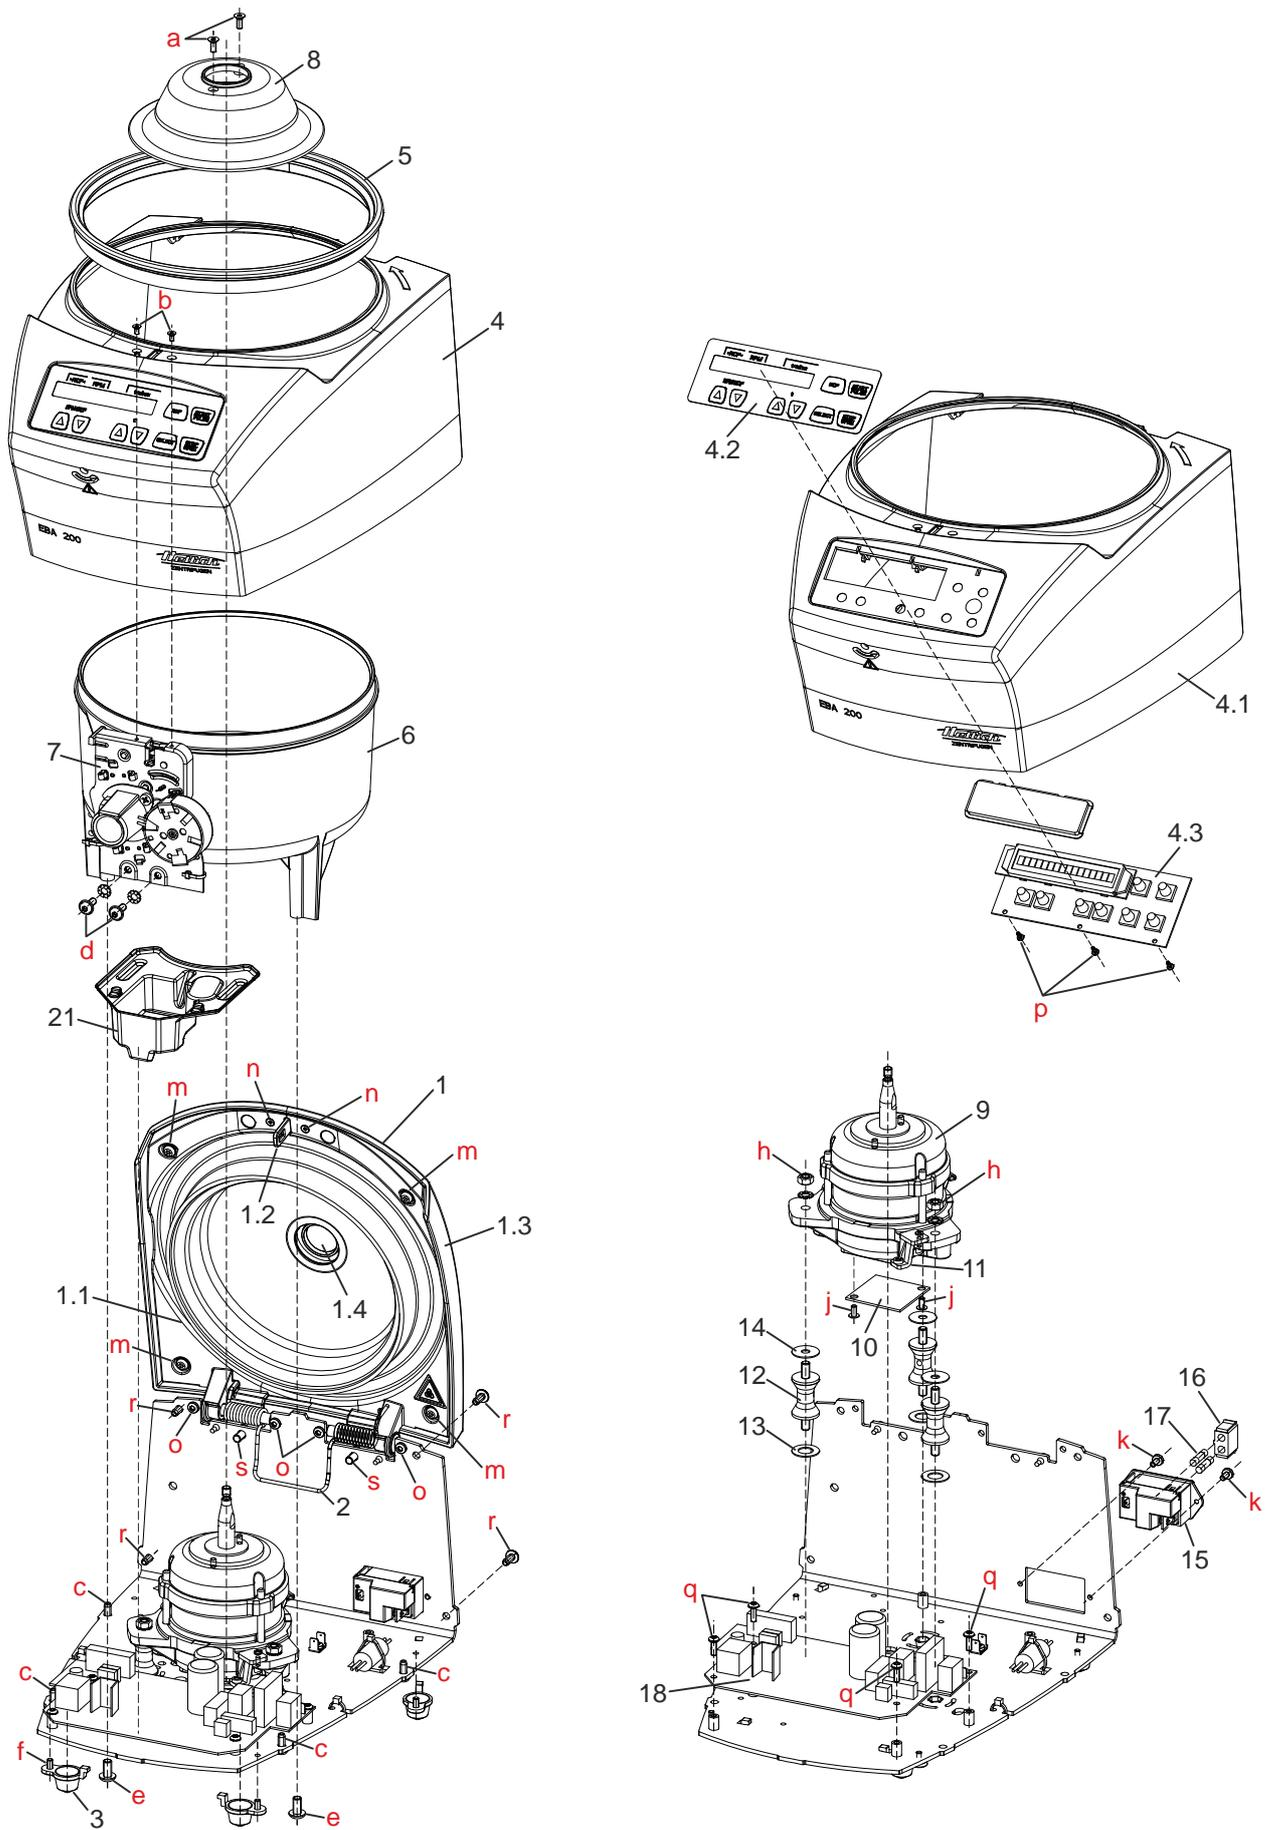
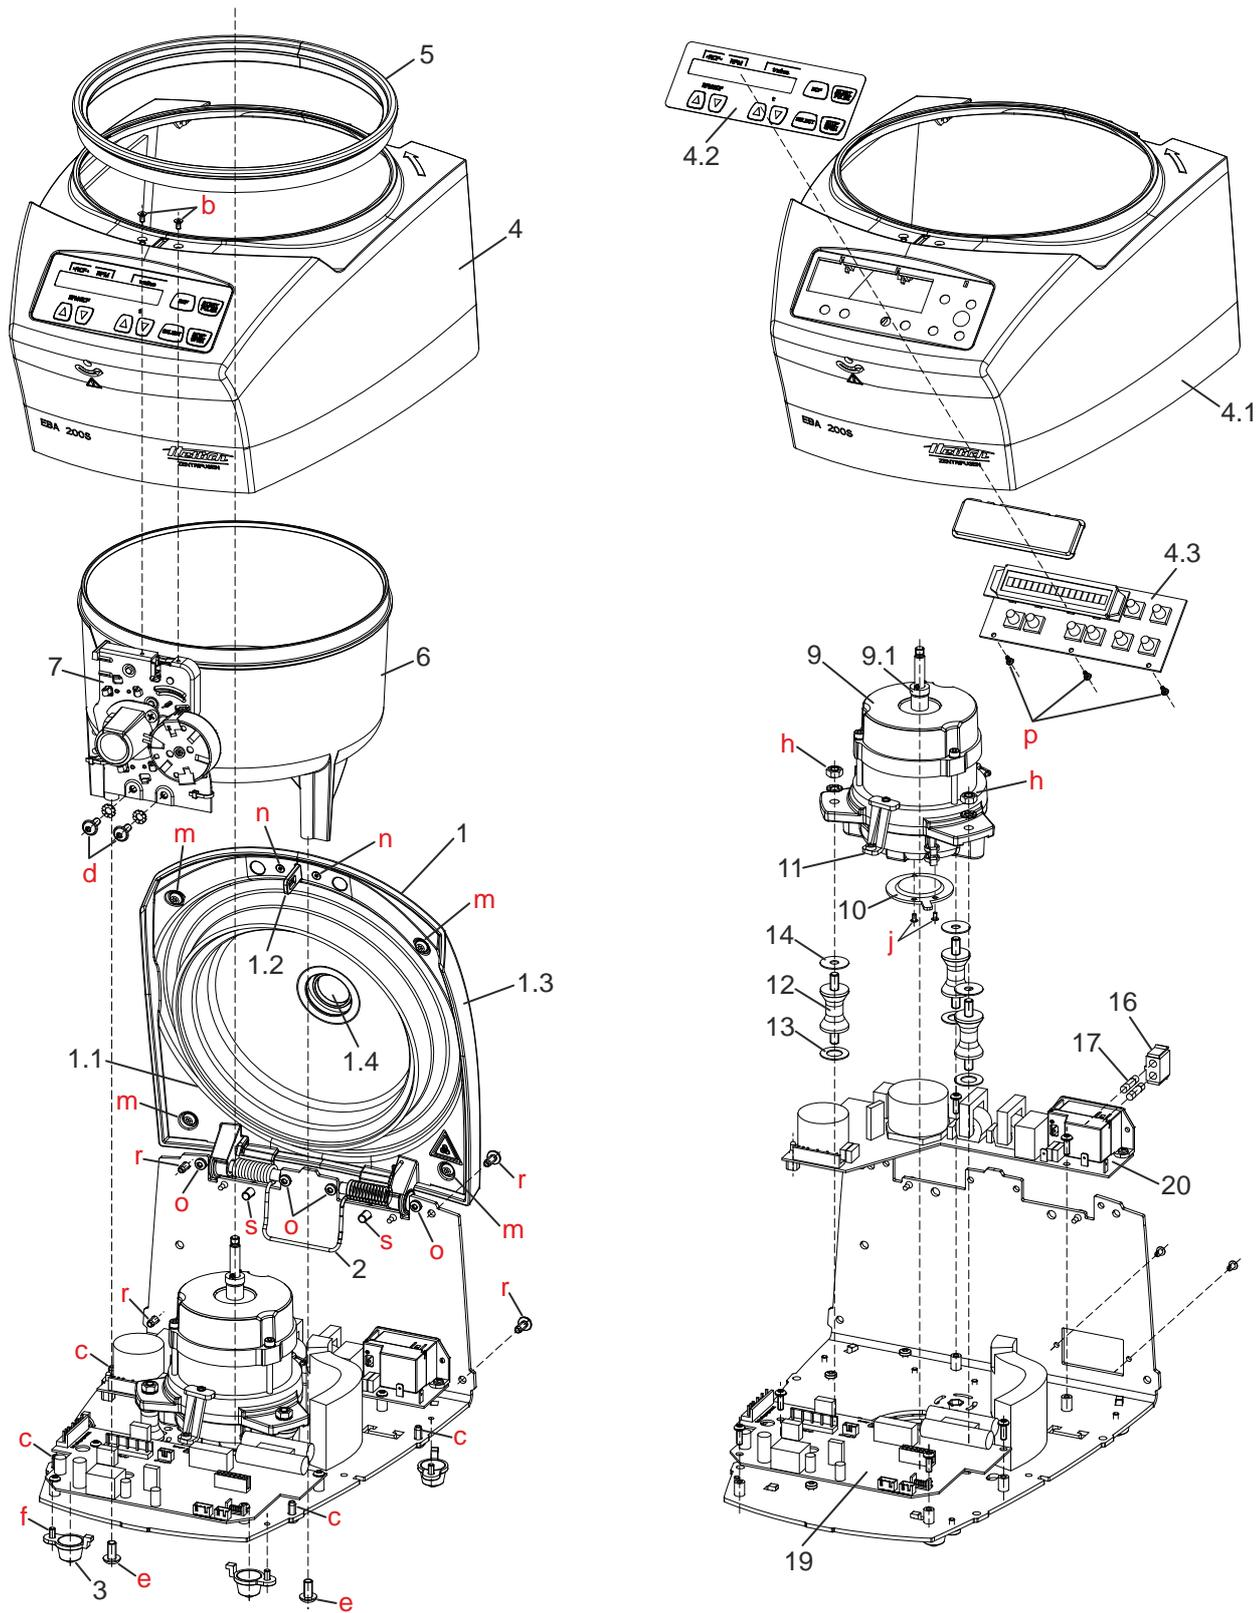
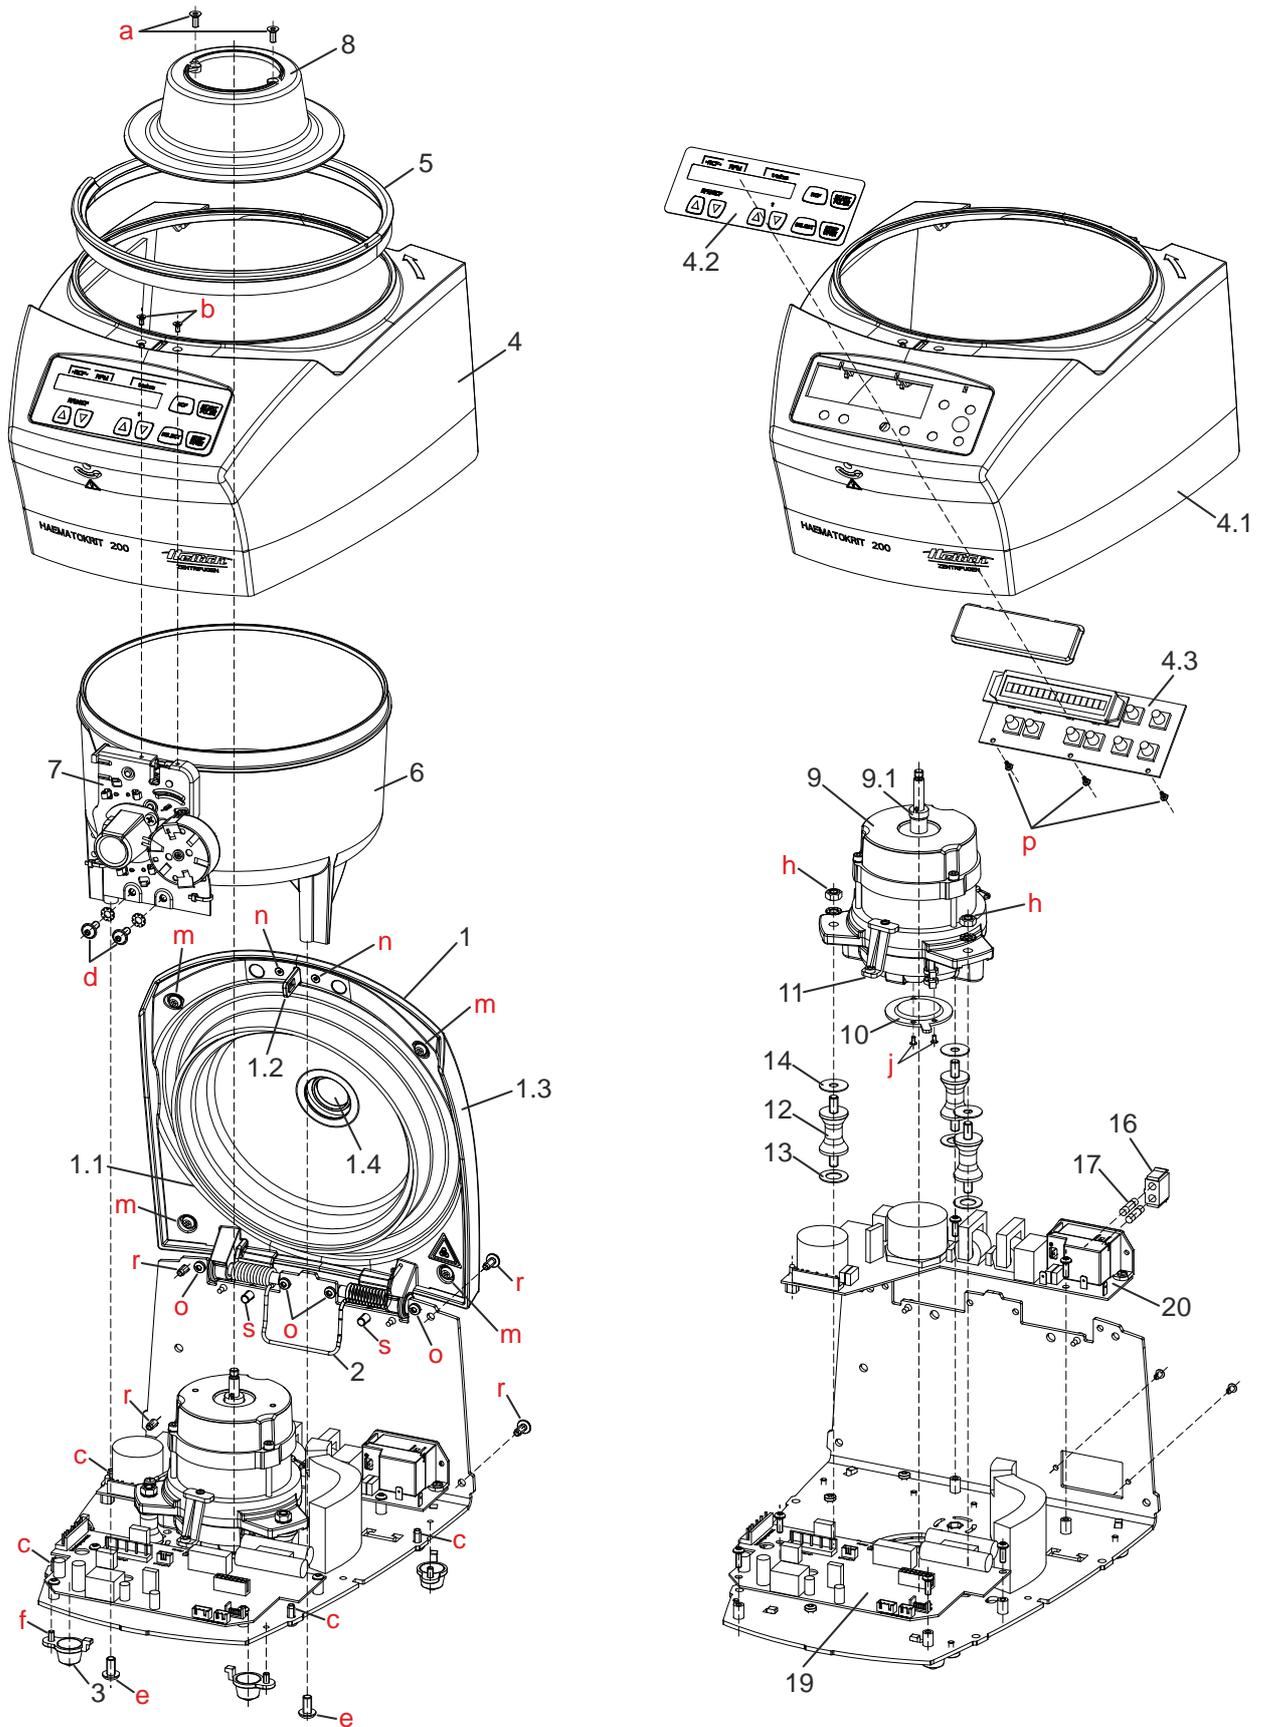
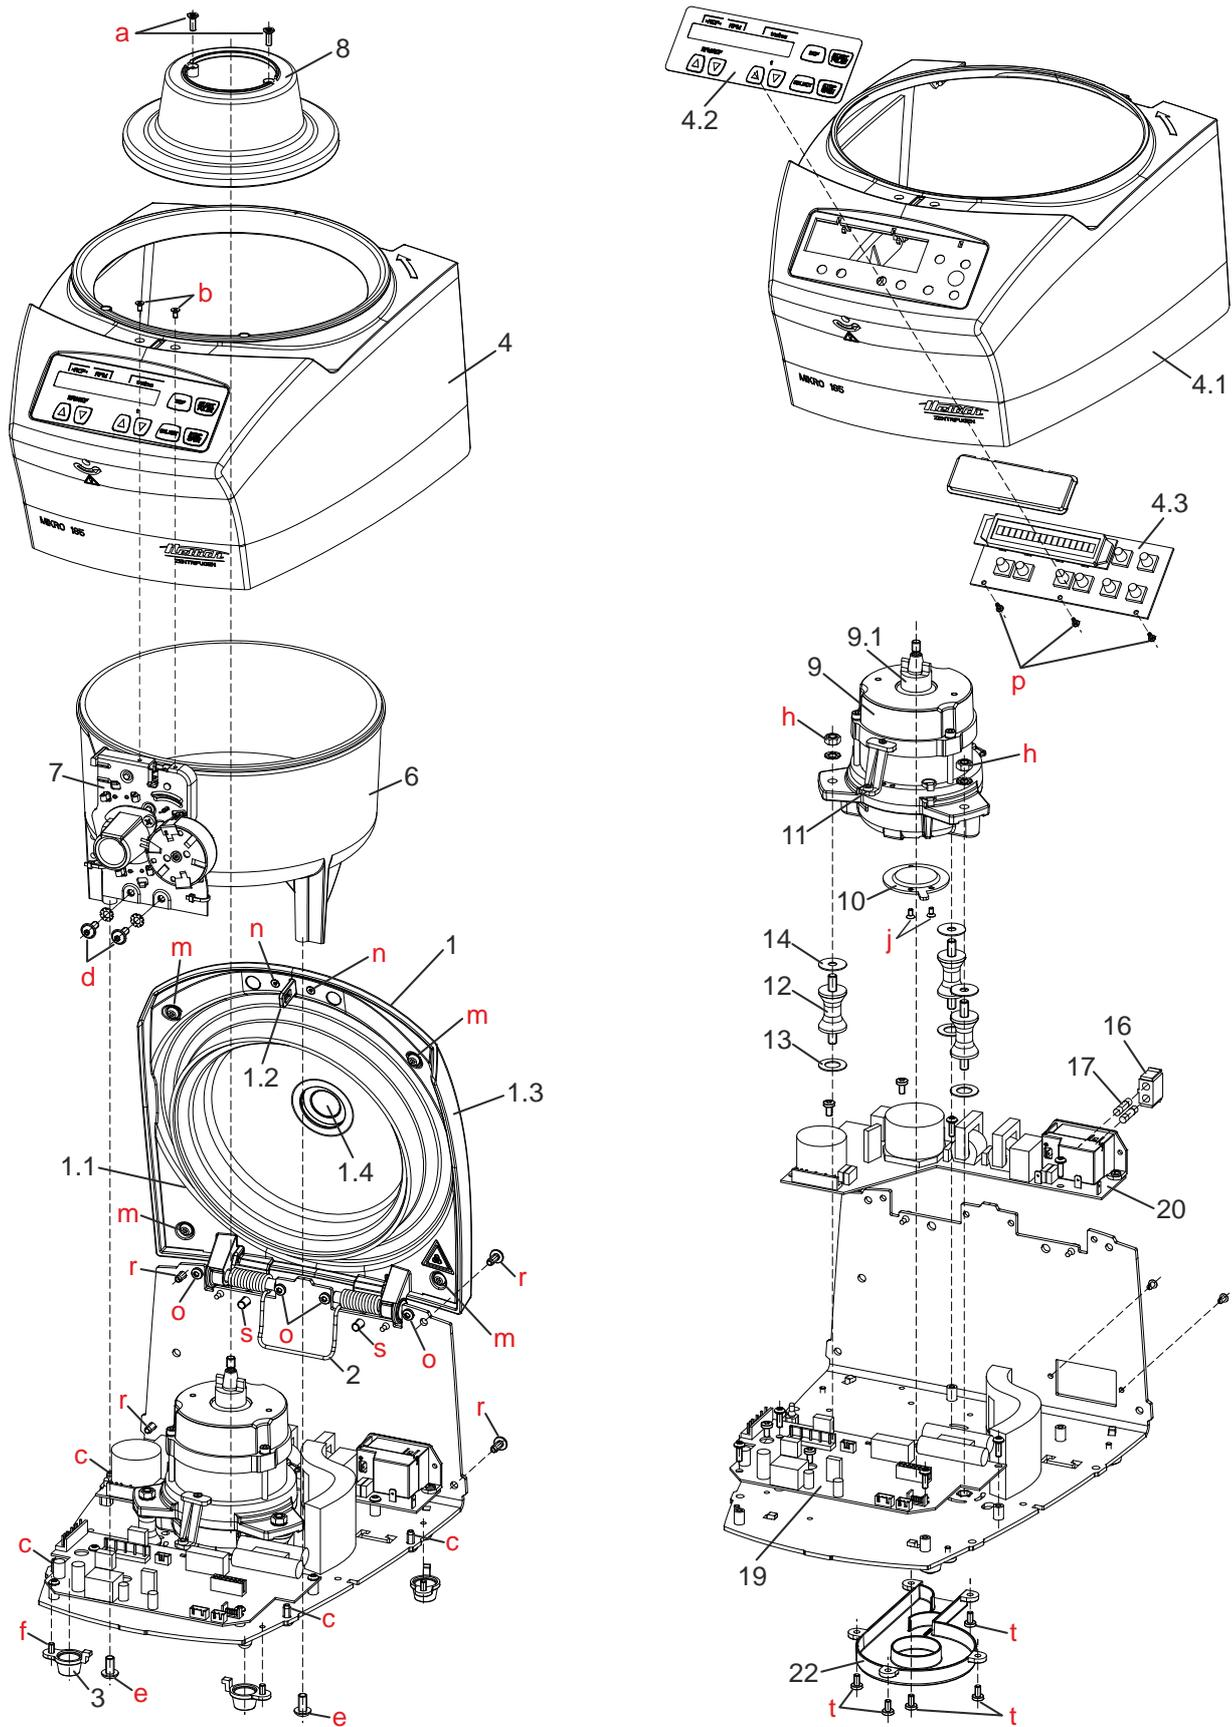

Fig. 1 EBA 200
Fig. 2 EBA 200 S
Fig. 3 HAEMATOKRIT 200
Fig. 4 MIKRO 185
- Screw the two fastening screws of the lid lock (pg. 51, Fig. 1, b | pg. 52, Fig. 2, b | pg. 53, Fig. 3, b | pg. 54, Fig. 4, b) out of the upper housing part.
- Screw the four fastening screws of the upper housing part (pg. 51, Fig. 1, c | pg. 52, Fig. 2, c | pg. 53, Fig. 3, c | pg. 54, Fig. 4, c) out of the base plate of the device.
- Screw the four fastening screws of the upper housing part (pg. 51, Fig. 1, r | pg. 52, Fig. 2, r | pg. 53, Fig. 3, r | pg. 54, Fig. 4, r) out of the rear side of the device.
- Lift up the upper housing part (pg. 51, Fig. 1, item 4 | pg. 52, Fig. 2, item 4 | pg. 53, Fig. 3, item 4 | pg. 54, Fig. 4, item 4) somewhat and tilt forward.
- Screw the two screws (pg. 51, Fig. 1, a | pg. 52, Fig. 2, a | pg. 53, Fig. 3, a | pg. 54, Fig. 4, a) out of the motor cover and remove the motor cover.
- Screw the two fastening screws of the centrifuging chamber (pg. 51, Fig. 1, e | pg. 52, Fig. 2, e | pg. 53, Fig. 3, e | pg. 54, Fig. 4, e) out of the base plate of the device.
- Screw the two fastening screws of the centrifuging chamber (pg. 51, Fig. 1, s | pg. 52, Fig. 2, s | pg. 53, Fig. 3, s | pg. 54, Fig. 4, s) out of the rear side of the device.
- Lift up the centrifuging chamber (pg. 51, Fig. 1, item 6 | pg. 52, Fig. 2, item 6 | pg. 53, Fig. 3, item 6 | pg. 54, Fig. 4, item 6) and remove.
- Screw the two fastening screws of the centrifuging chamber (pg. 51, Fig. 1, s) out of the rear side of the device.
- Unscrew the two fastening screws of the centrifuging chamber (pg. 51, Fig. 1, e) at the base plate of the device only about 4 mm.
- Lift the centrifuging chamber (pg. 51, Fig. 1, item 6) upwards and pull out the drip tray (pg. 51, Fig. 1, item 21) to the front.
- Loosen the three fastening nuts of the motor (pg. 51, Fig. 1, h | pg. 52, Fig. 2, h | pg. 53, Fig. 3, h | pg. 54, Fig. 4, h) and remove.
- Unplug the motor's grounding cable and remove the motor (pg. 51, Fig. 1, item 9 | pg. 52, Fig. 2, item 9 | pg. 53, Fig. 3, item 9 | pg. 54, Fig. 4, item 9) from the centrifuge.
- Screw the speed sensor (pg. 51, Fig. 1, item 10 | pg. 52, Fig. 2, item 10 | pg. 53, Fig. 3, item 10 | pg. 54, Fig. 4, item 10) off from the bottom of the motor (two screws for the EBA 200 and three screws for EBA 200 S, HAEMATOKRIT 200, MIKRO 185, see pg. 51, Fig. 1, j | pg. 52, Fig. 2, j | pg. 53, Fig. 3, j | pg. 54, Fig. 4, j).
- Before installing the motor, check the three rubber/metal bearings (pg. 51, Fig. 1, item 12 | pg. 52, Fig. 2, item 12 | pg. 53, Fig. 3, item 12 | pg. 54, Fig. 4, item 12) for any wear or cracks and replace them, if necessary. If a rubber/metal bearing is damaged, all three rubber/metal bearings have to be replaced. To replace the rubber/metal bearings, screw them out of the base plate.
When installing the rubber/metal bearings, make sure that there is an anti-twist device (pg. 51, Fig. 1, item 13, 14 | pg. 52, Fig. 2, item 13, 14 | pg. 53, Fig. 3, item 13, 14 | pg. 54, Fig. 4, item 13, 14) on both sides of the rubber/metal bearing in order to prevent it from twisting during installation.
- Screw the holder (pg. 51, Fig. 1, item 11 | pg. 52, Fig. 2, item 11 | pg. 53, Fig. 3, item 11 | pg. 54, Fig. 4, item 11) off of the motor.
- Screw the two fastening screws of the lid lock (pg. 51, Fig. 1, d | pg. 52, Fig. 2, d | pg. 53, Fig. 3, d | pg. 54, Fig. 4, d) from the centrifuging chamber.
- Exchange the lid lock (pg. 51, Fig. 1, item 7 | pg. 52, Fig. 2, item 7 | pg. 53, Fig. 3, item 7 | pg. 54, Fig. 4, item 7).
- ☞ Before tightening the two fastening screws of the lid lock (pg. 51, Fig. 1, d | pg. 52, Fig. 2, d | pg. 53, Fig. 3, d | pg. 54, Fig. 4, d) make sure that the locking tab on the lid (pg. 51, Fig. 1, item 1.2 | pg. 52, Fig. 2, item 1.2 | pg. 53, Fig. 3, item 1.2 | pg. 54, Fig. 4, item 1.2), moves centred into the lid lock when the lid is locked, and doesn't scrape on the housing of the lid lock.
- Unplug all plugs from the electronics (pg. 51, Fig. 1, item 18).
- Screw out the four fastening screws from the electronics (pg. 51, Fig. 1, q).
- Unplug all plugs from the electronics (pg. 52, Fig. 2, item 19 | pg. 53, Fig. 3, item 19 | pg. 54, Fig. 4, item 19).
- Screw the three fastening screws out of the control panel (pg. 51, Fig. 1, p | pg. 52, Fig. 2, p | pg. 53, Fig. 3, p | pg. 54, Fig. 4, p).
- Lift up the control panel (pg. 51, Fig. 1, item 4.3 | pg. 52, Fig. 2, item 4.3 | pg. 53, Fig. 3, item 4.3 | pg. 54, Fig. 4, item 4.3) on the side of the fastening screws and pull out of the holder.